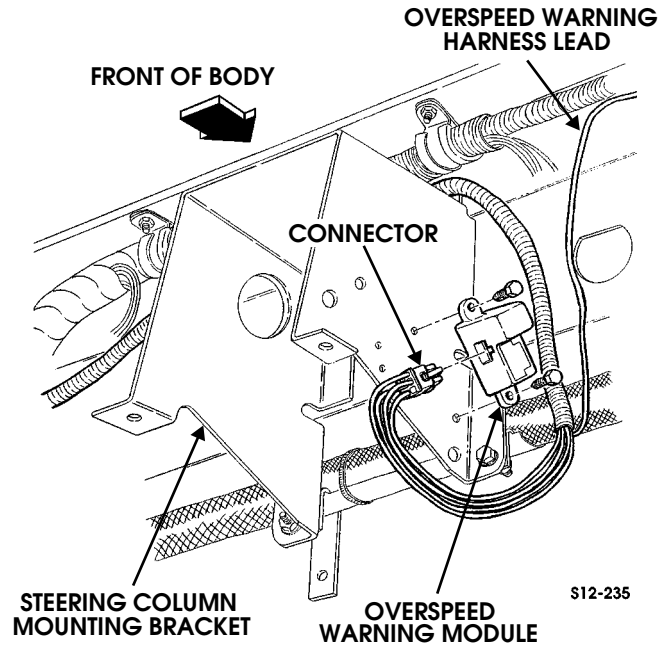

Figure 12-137: Overspeed Warning Module
3. Remove connector from overspeed warning module (Figure 12-137).
4. Install connector to overspeed warning module (Figure 12-137).
Remove velcro and overspeed warning module from steering column mounting bracket (Figure 12-137).
Install overspeed warning module to steering column mounting bracket with velcro (Figure 12-137).